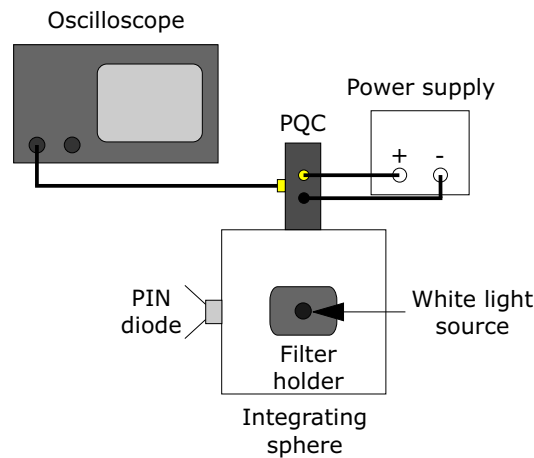

Figure 2: Experimental setup for dark count and photon counting observation.
- Set up the equipment as shown in Fig. 2.